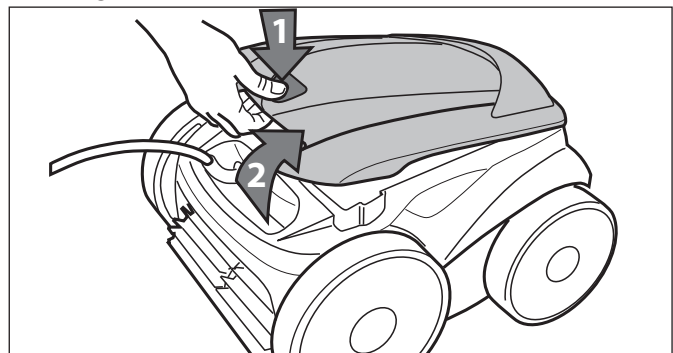

Figure 20. Lift Cleaner Cover
4. To remove the filter from the cleaner, follow the steps 1 through 6 (Figures 20 through 23).
5. Push the cover lock (1) and lift the cover (2) until it is secured in the vertical position. Refer to Figure 20.